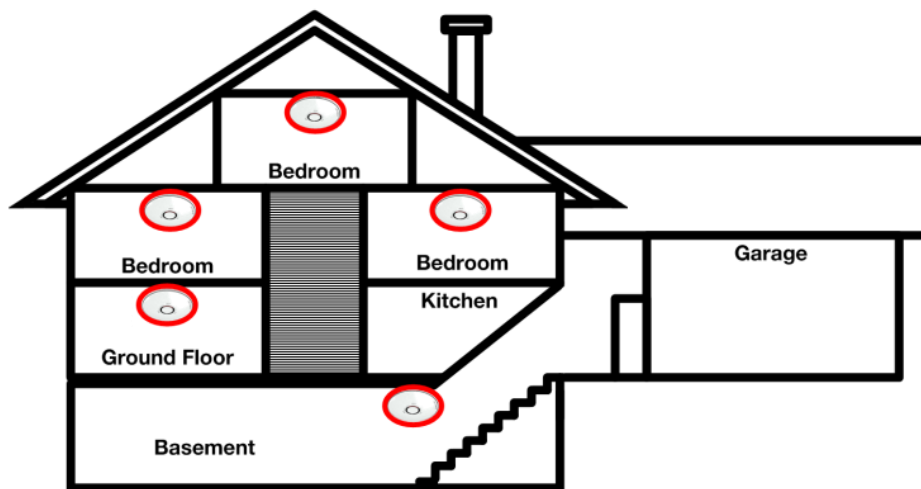

Figure 129: Smoke Detectors in Multi-floor House
- ◆ Install a Smoke Detector on every floor of a multi-floor house as shown in Figure 129 below.
- ◆ Install basement Smoke Detectors at the bottom of the stairway as shown in Figure 129 above.